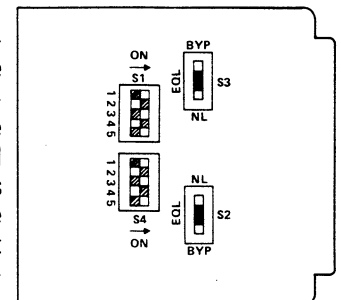

figure 8. 4001A option locations
3.05 Four switch options, two of which are five-position DIP switches, must be set before the 4001A can be placed into service. Locations of these switches on the module's printed circuit board are shown in figure 8.